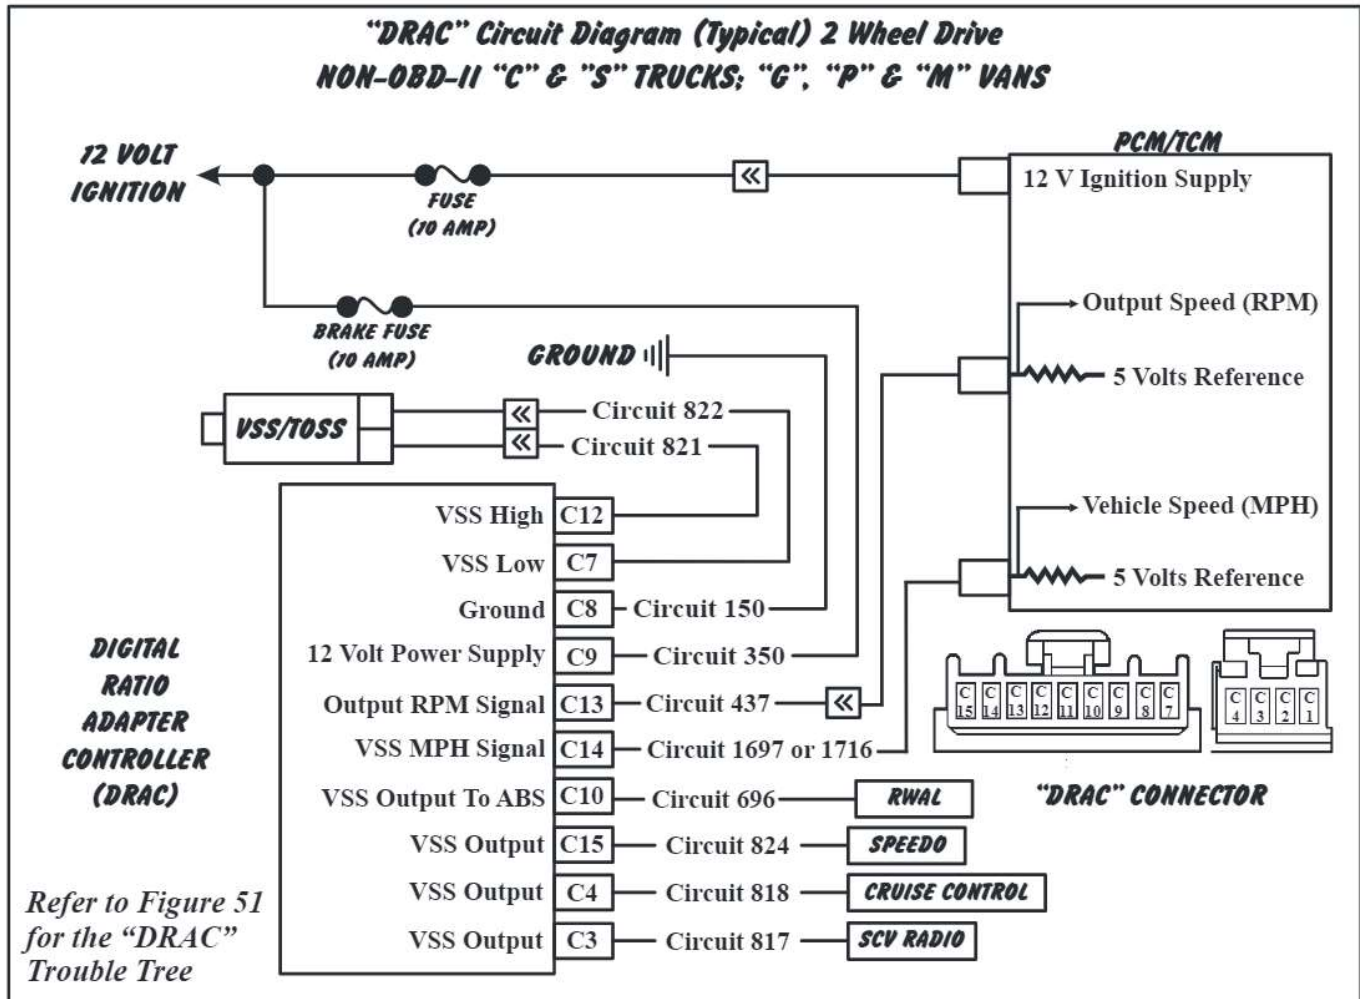
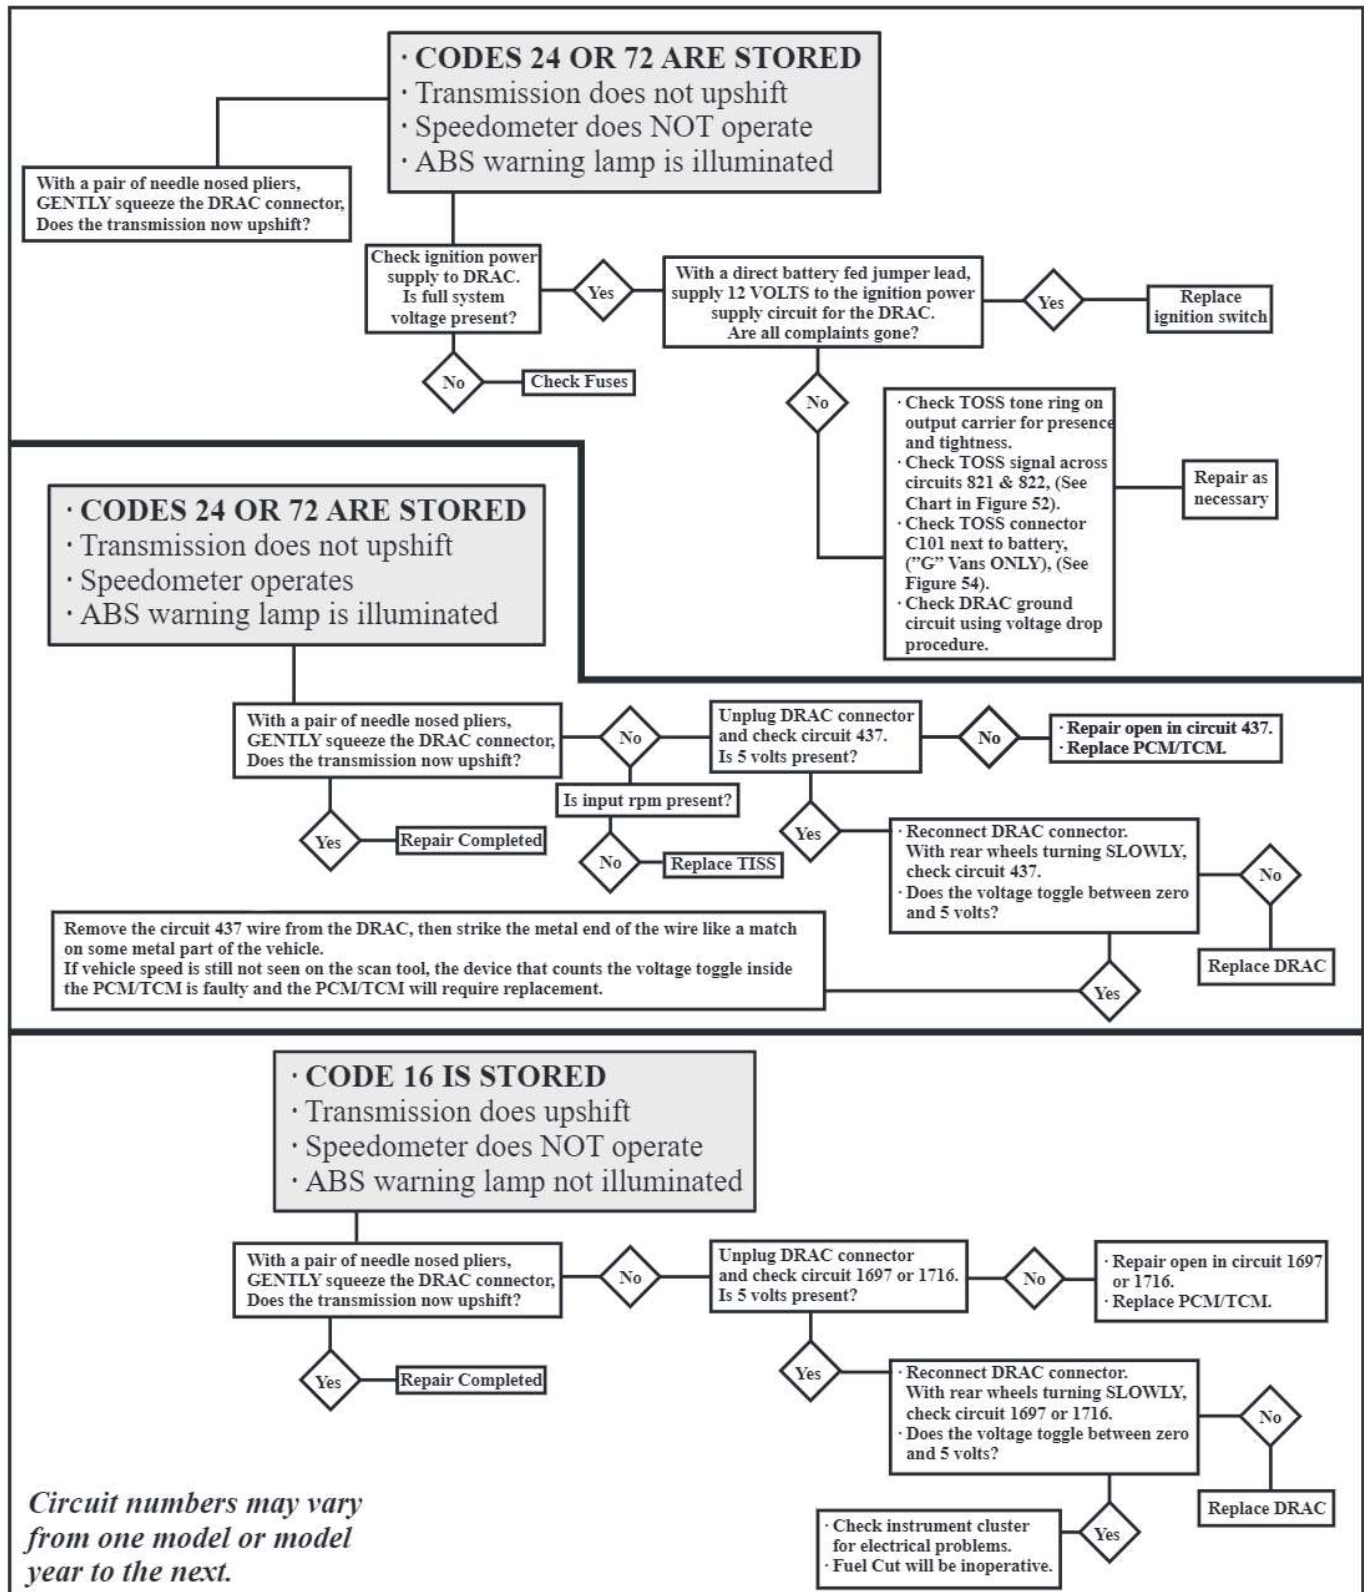

Figure 50
Figure 51
- ISUZU NPR, Chevy Forward and GMC Tiltmaster Tilt cab trucks, when equipped with the GM 5.7L gas engine and 4L80E transmission will have the same VSS system with a DRAC as a GM built "P" van and is diagnosed the same as the system in Figure 50 also using the diagnostic tree in Figure 51.
If all the above complaints exist, check these items **FIRST!** (Refer to Figure 50)
- A short or open in circuit 1697 or 1716, (Refer to Figure 50).
- A fault in the output speed sensor, its wiring (Circuits 821 or 822, Refer to Figure 50) or connector, (See Chart in Figure 52).